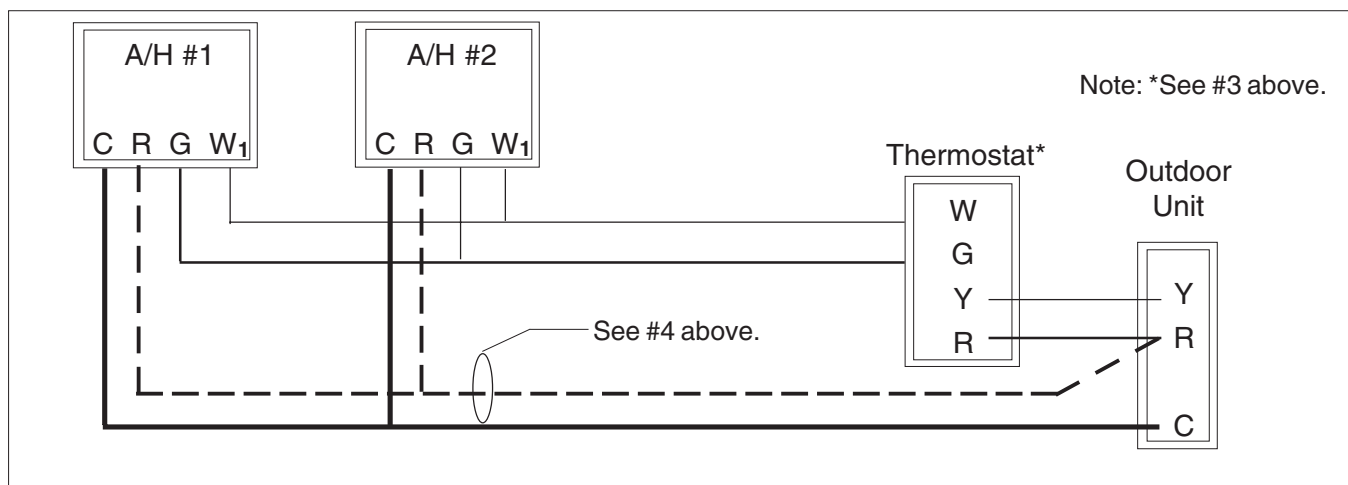

Figure 1. Low Voltage Wiring
2. Low voltage wiring should be connected as shown in Figure 1.
4. For 2 - 5 Ton (B3 style) air handlers equipped with a printed circuit board control, 24V (R) must be connected to both indoor units.